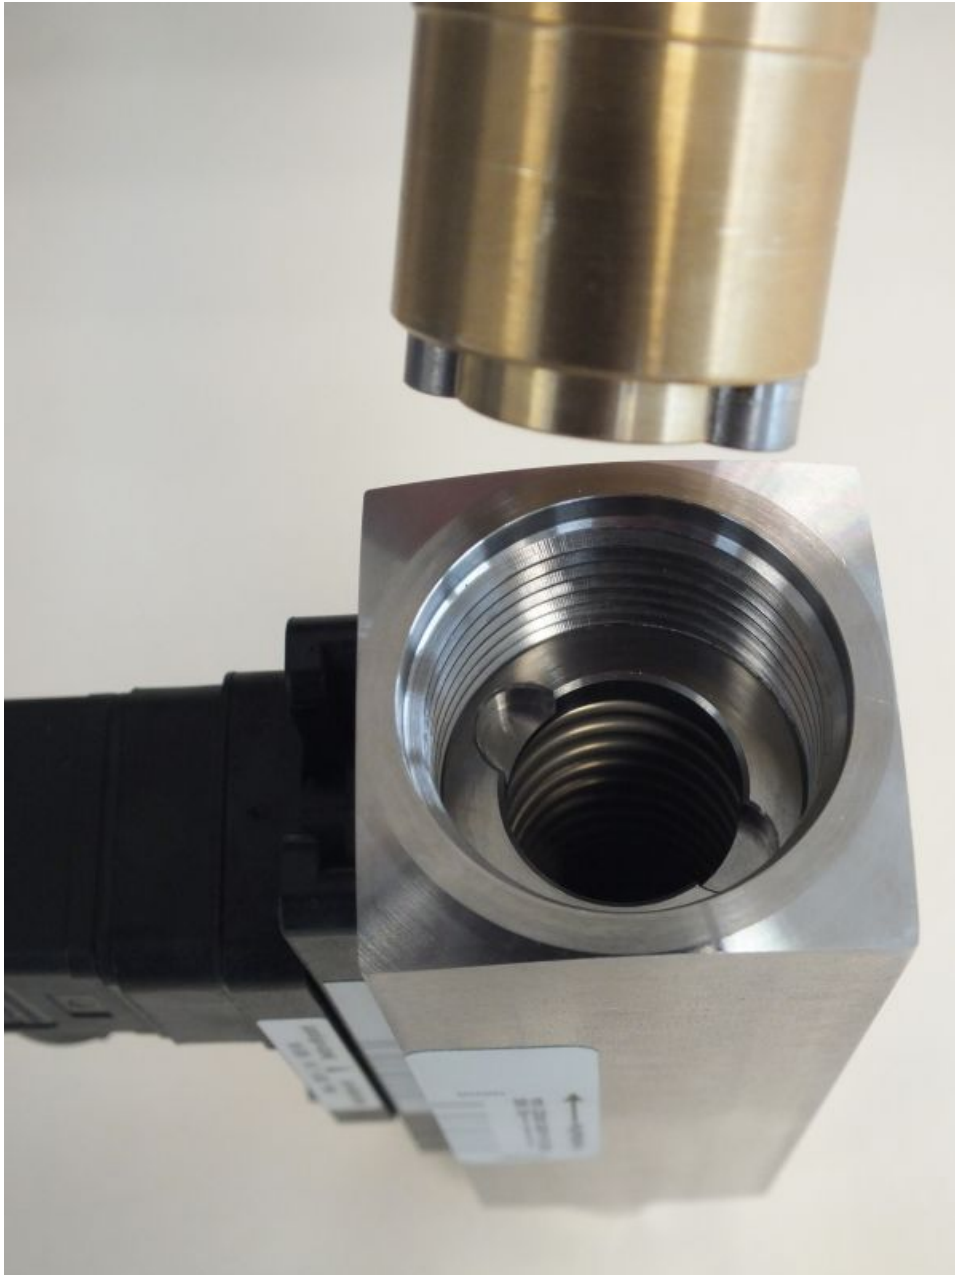

Fig. 50: Insert DKME/A-1 threaded ring insertion tool (outlet)
- 8.** ➤ Insert the DKME/A-1 threaded ring insertion tool into the device outlet (*Fig. 50*) and turn until it rests in the keyway of the threaded ring